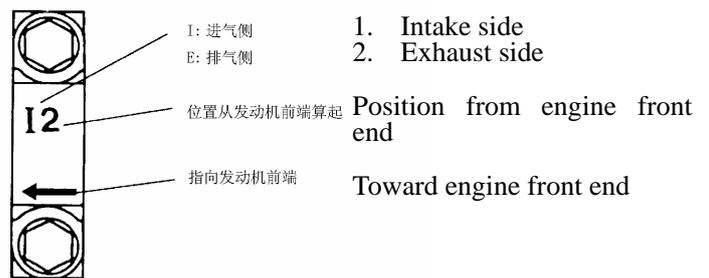

Fig. 4-113
- 5) Coat plane sealed glue on the rear end cover of intake camshaft as shown in Fig. 4-113.